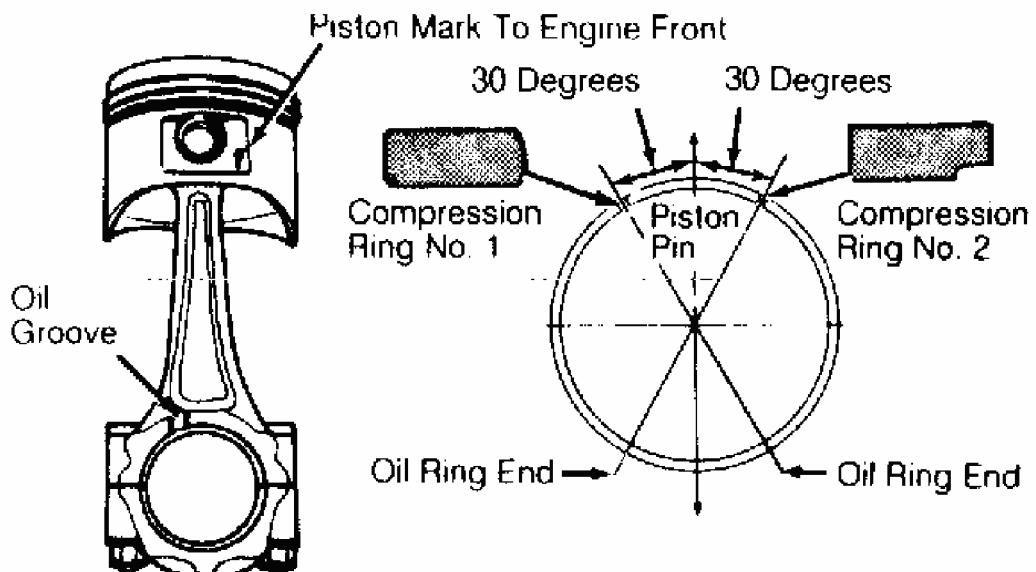

Fig. 13: Assembling Piston, Rod & Rings
3. To install, ensure parts are matched to cylinder. Ensure piston, rod, rings and bearings are properly fitted and in related positions. See **Fig. 13**. Install piston and rod assembly into block.
Match mark piston-to-pin and rod-to-piston positions for proper reassembly. Remove piston pin retaining clip. Drive piston pin out of piston and rod assembly. Install one piston pin retaining clip into groove in piston. Ensure piston is positioned properly on connecting rod. See **Fig. 13**. Tap piston pin into piston and through rod. Install second retaining clip. Piston should pivot freely.